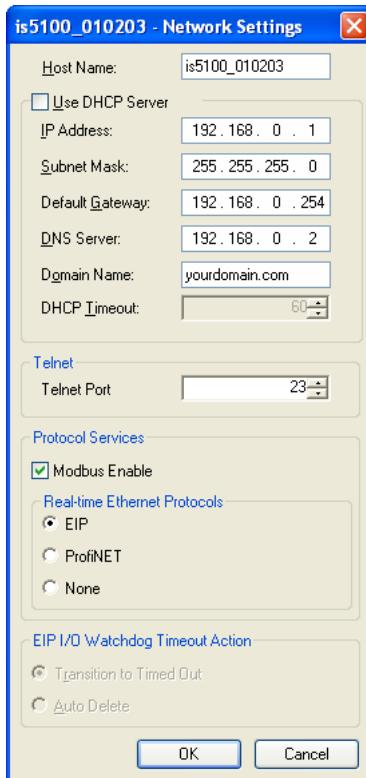

Figure 4-7: Network Settings Dialog
2. On the Sensor menu, click **Network Settings** to open the Network Settings dialog (Figure 4-7).